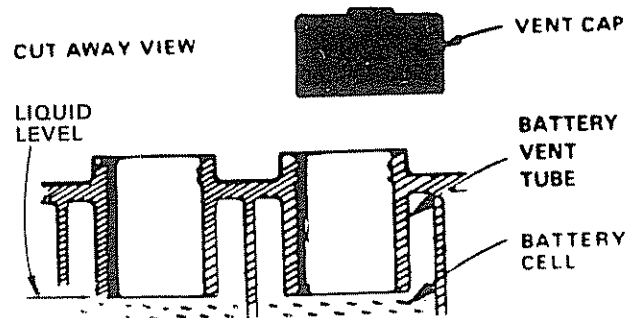

FIGURE 13
- Battery acid solution level in each battery cell should be even with bottoms of vent tubes in cells (Fig. 13). Add ONLY distilled or iron free water if necessary. NOTE: DO NOT OVERFILL.